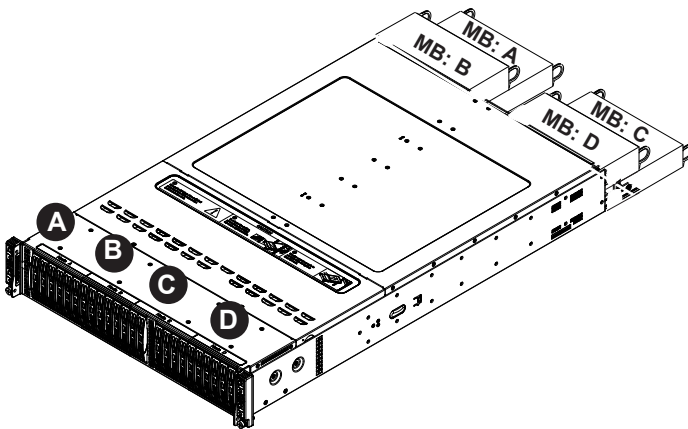

Figure 5-6. Hard Drives and the Corresponding Motherboards
2. Use the handle to pull the drive out of the chassis (Figure 5-6).